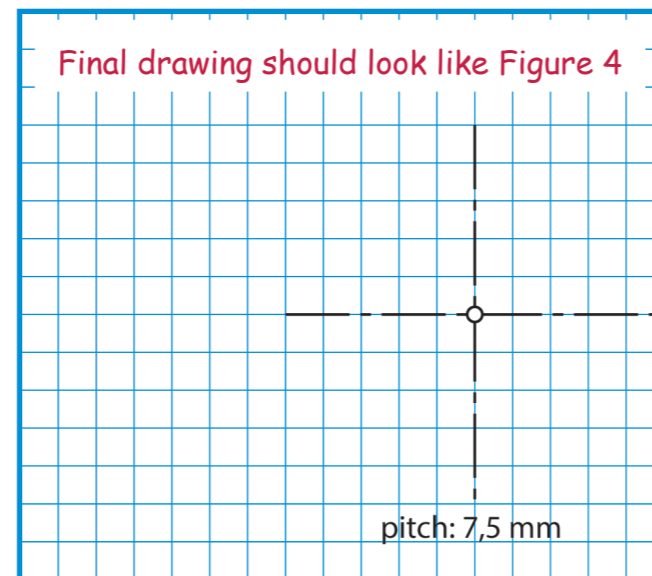

Figure 5
- When the teeth of two gears mesh, they touch one another somewhere in the middle between the outer and inner diameters. The **pitch diameter** is the diameter of the circle showing where the meshing gear teeth touch one another. Look again at Figure 5 in Chapter 12.